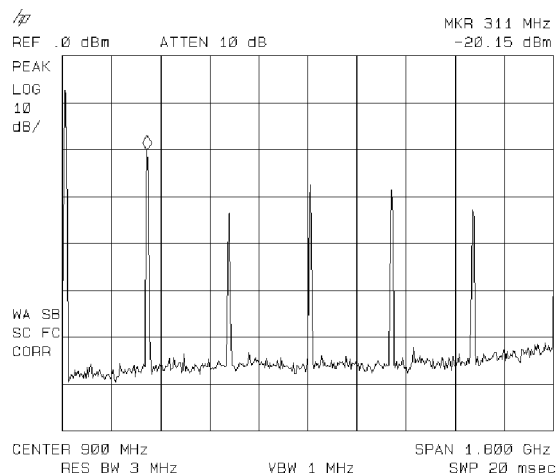

Figure 6-12. Placing a Marker on the CAL OUT Signal
2. Press **PEAK SEARCH** to place a marker at the highest peak on the display. The **NEXT PK RIGHT** and **NEXT PK LEFT** softkeys move the marker from peak to peak. Press **NEXT PK RIGHT** to move the marker to the 300 MHz calibration signal. See Figure 6-12.